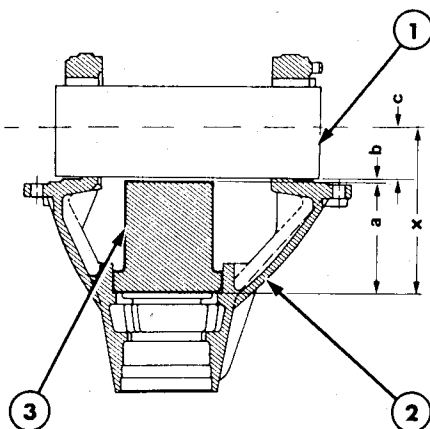

Fig. 54—Diagram of pinion shimming tools and measuring points. Refer to text.
If gears require renewal, the following procedure must be followed to determine pinion bearing shim (17) thickness: All measurements should be metric or conversion will be necessary. Refer to Fig. 54 and install pinion setting mandrel No. T3123 and dummy pinion No. T3123-3 on Models 8700 and 9700, or pinion setting mandrel No. T3131 and dummy pinion No. T3131-1 on Models TW-10 and TW-20. Apply pressure to mandrel when measurements are taken. Height of dummy pinion (a) + gap between mandrel and dummy pinion (b) + half the diameter of the differential bores (c) = dimension (x).
end of bevel pinion (3). Subtract result from dimension (x—Fig. 54) to obtain required thickness of pinion bearing shim (17—Fig. 52). Shims are available in thicknesses of 0.1 through 0.5 mm. Install shims so tolerance is within plus
Clean and inspect all components and renew as necessary. Bevel ring and pinion gears are available only as a matched set. Identical serial numbers will be stamped on outer edge of bevel ring gear (3) and on end of bevel pinion gear (1). If housing, bearings, differential case or ring and pinion gears have been renewed, then the following shimming procedure must be followed to determine pinion bearing shim (16) thickness: All measurements should be metric or conversion will be necessary. Refer to Fig. 54 and install dummy pinion tool No. T3131 into bore of differential housing, then install pinion setting mandrel, tool No. T3131 into differential bearing bores.
Apply pressure to mandrel as following measurements shown in Fig. 54 are taken: Height of dummy pinion (a) + gap between dummy pinion and mandrel (b) + half the diameter of differential bores (c) = dimension (x).
Dummy pinion height should be 1.93 inches. Measure overall width of assembled pinion bearing (2—Fig. 59) cone and cup, then add bearing width to etched pinion setting number (in millimeters) next to serial number on gear end of bevel pinion (1). Subtract result from dimension (x—Fig. 54) to obtain required thickness of pinion bearing shim (16—Fig. 59). Shims are available in thicknesses of 0.1 through 0.5 mm. Install shims so tolerance is within plus or minus 0.05 mm of calculated thickness. Install shim (16) and bearing (2) cup in housing and press bearing (2) cone on pinion gear shaft until seated against shoulder.